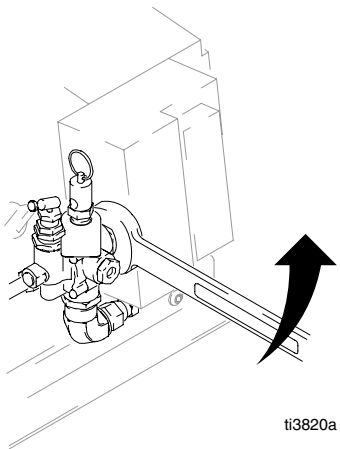

Fig. 14 _____
2. Remove air line at compression fitting. Fig. 14.